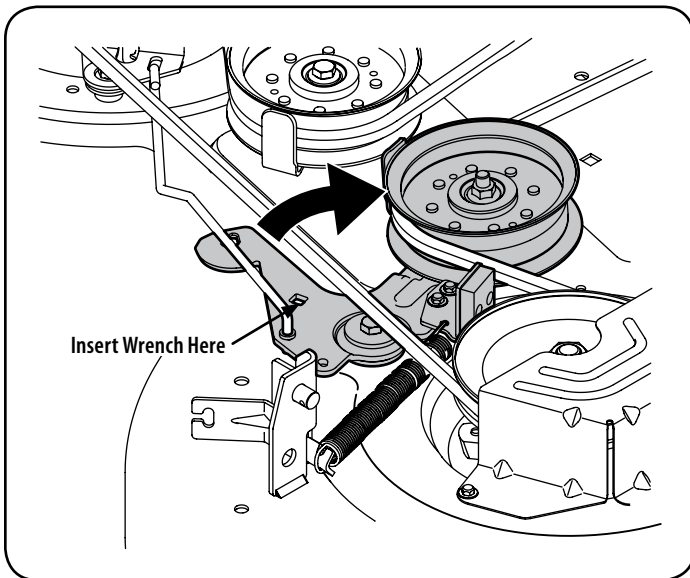

Figure 27
- f. Working on the right side of the tractor, insert a $\frac{3}{8}$ " drive ratchet wrench, set to tighten, into square hole found on the idler bracket. See Figure 27.